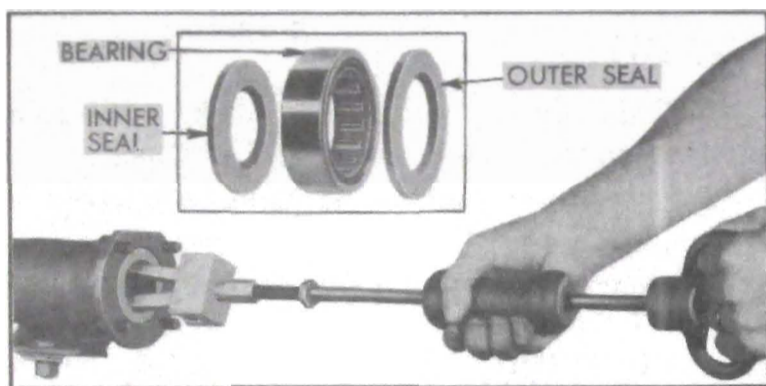

Figure 6-4—Removing Wheel Bearing and Oil Seals
4. Remove outer oil seal and roller bearing, then remove inner oil seal, using Remover J 1436. See figure 6-4.